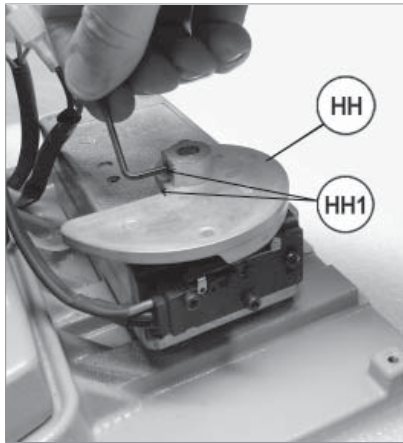

Fig. 65
- 3) Loosen 2 grub screws (HH1) and remove cam (HH) (Fig. 65).